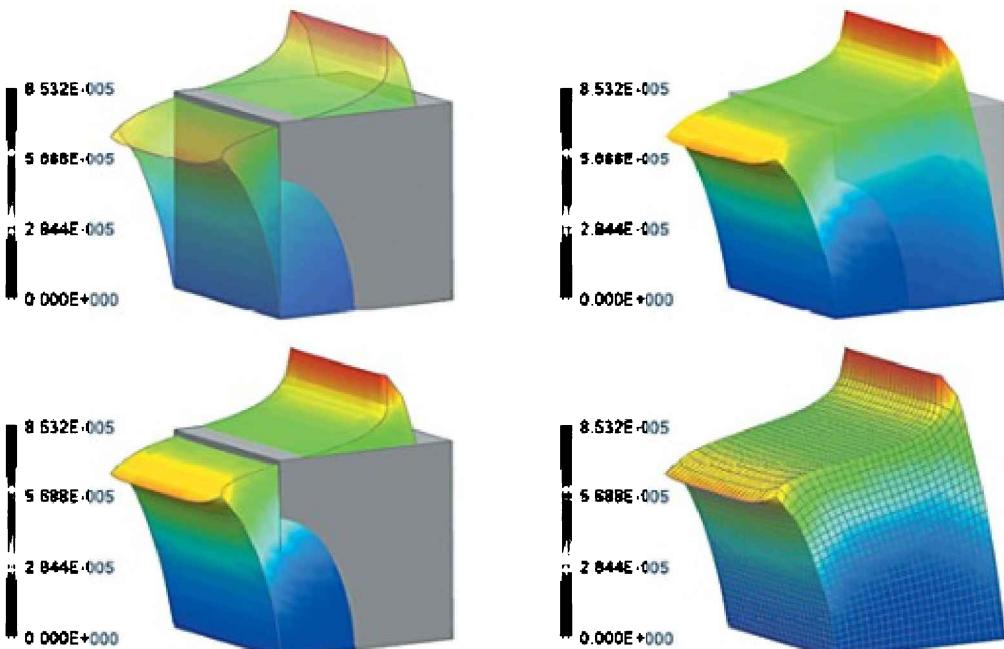

Figure 5.36. Displaying edges and faces differently in post processing
- In the *Faces* list you can select transparent or opaque display of faces (Figure 5.36).